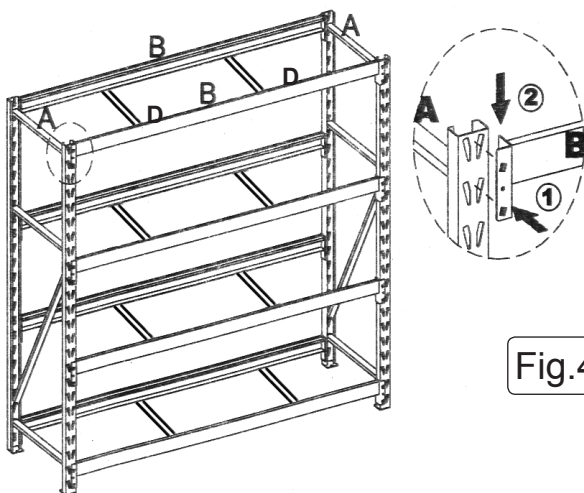

Fig.4
4.5 See Fig.4. Assemble the remaining two cross beams to the top of the frame as shown below ensuring that the tabs are fully engaged into the end frames.